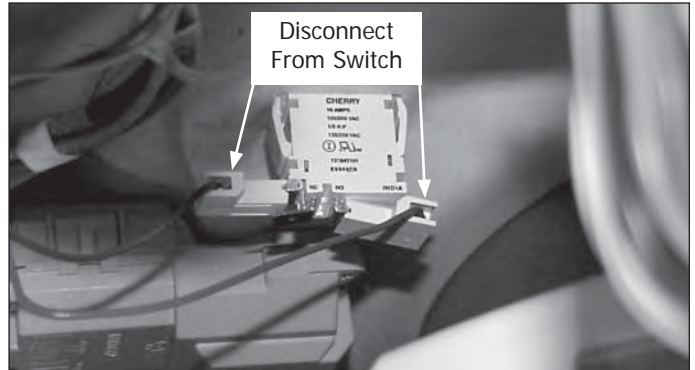

Figure 4-8.
2. Disconnect the two wires from the light switch. (See Figure 4-8)